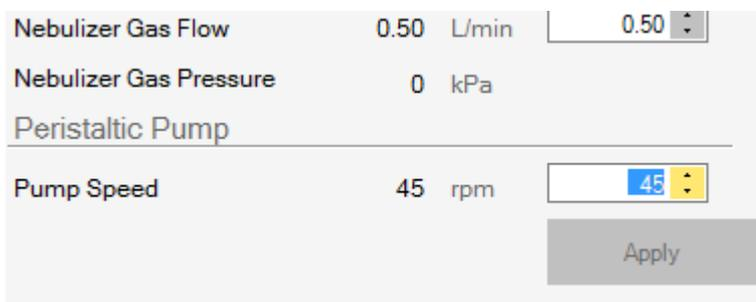

Figure 4-24. Adjusting system value on the Dashboard
1. On the Dashboard page, enter new values for an **iCAP OES Spectrometer** parameter, for example, *Pump Speed*, see Figure 4-24.